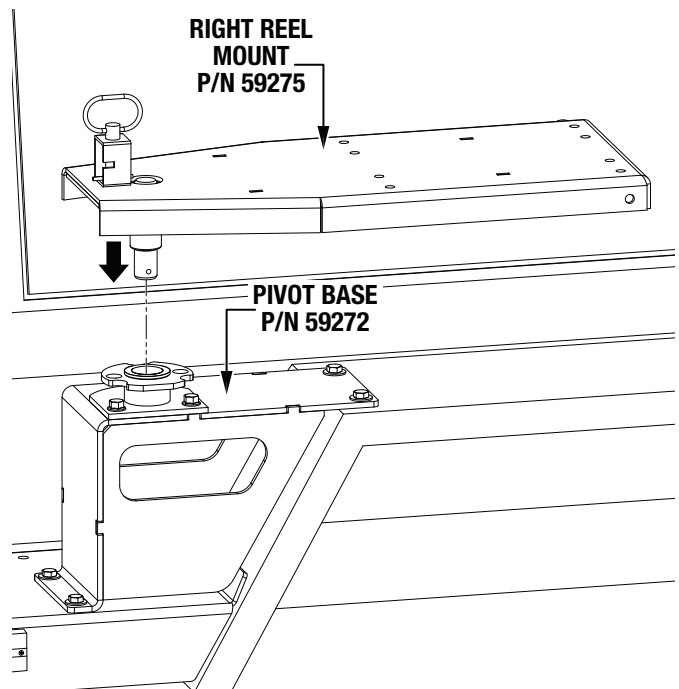

Figure 23. Reel Mount Installation
- Insert the right reel mount (P/N 59275) into the pivot base (P/N 59272) as shown in Figure 23.